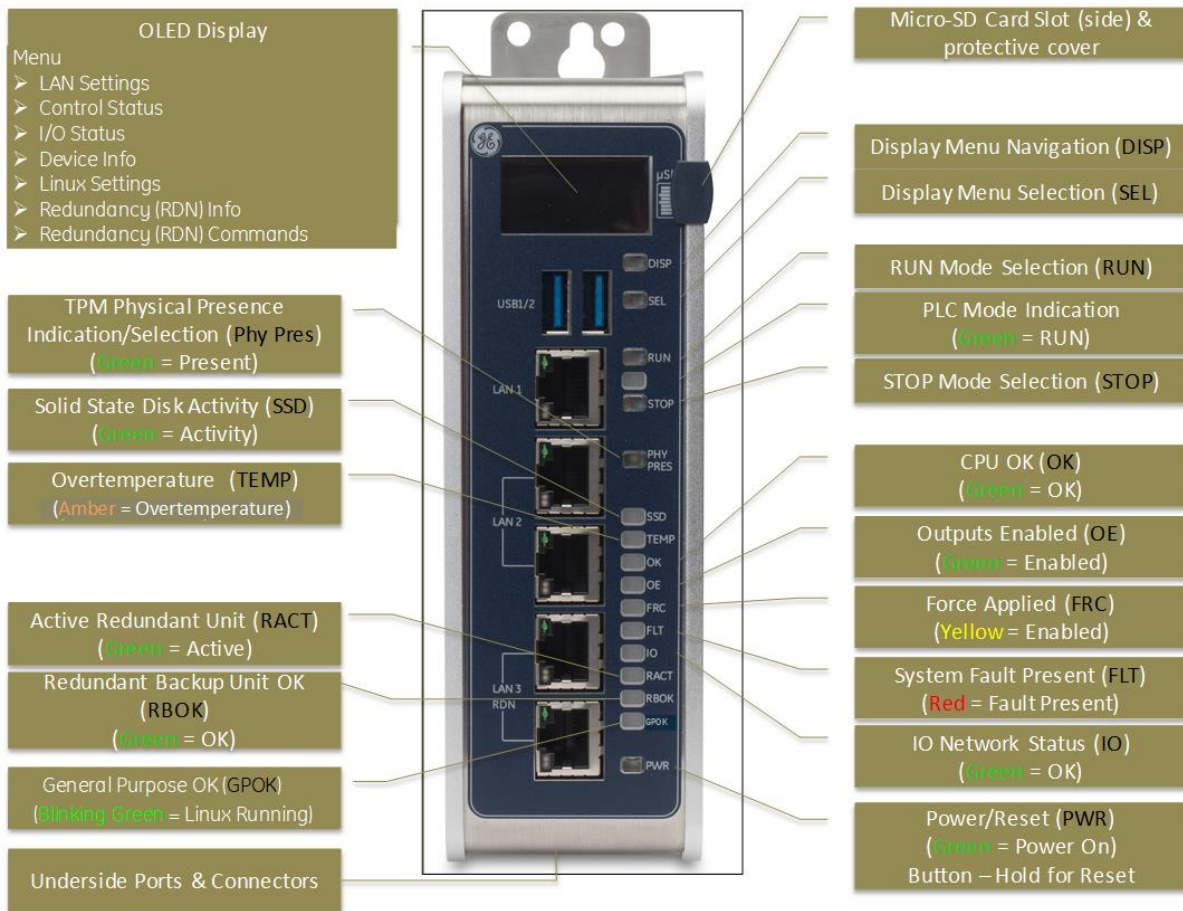

Figure 2: CPL410 Front View and Features
- Supports four independent 10/100/1000 Ethernet LANs. The three Ethernet ports located on the front panel, as shown in Figure 2, are exclusively assigned to the RX3i PLC: LAN1 attaches via the upper, dedicated RJ 45 connector. LAN2 and LAN3 each attach via a pair of internally-switched RJ 45 connectors.
All user-accessible switches are provided as pushbuttons on the front panel (Figure 2) as described below.
The monochrome organic light-emitting diode (OLED) display (Figure 2) is used to display CPL410 system menus. It interacts with the DISP pushbutton, which jogs the cursor from one menu item to the next, and with the SEL pushbutton, which activates the currently indicated menu item for further action.